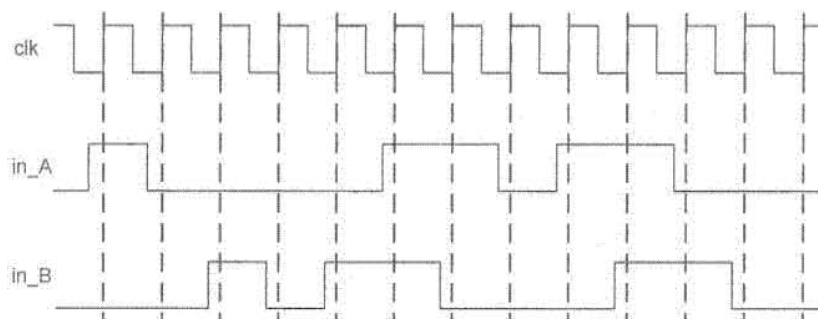

Figure 1.2
- c) Assuming that the FSM is initially at state S0, draw a timing diagram showing the output FSM_out and the state variable S4:S0 for inputs in_A and in_B shown in Figure 1.2. You may use the timing diagram template provided at the end of this paper.
not Fig 1.2